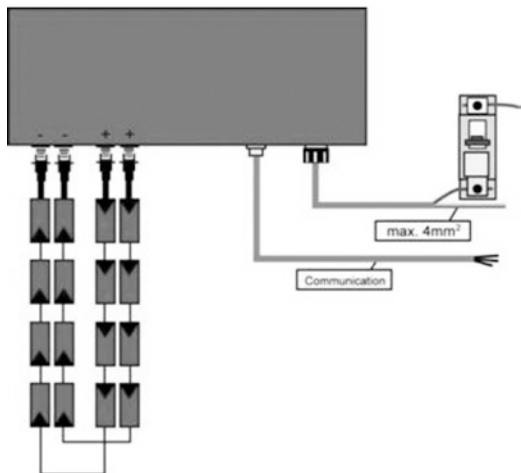

Figure 19
Step6: Connect AC connector to inverter (Figure 19).